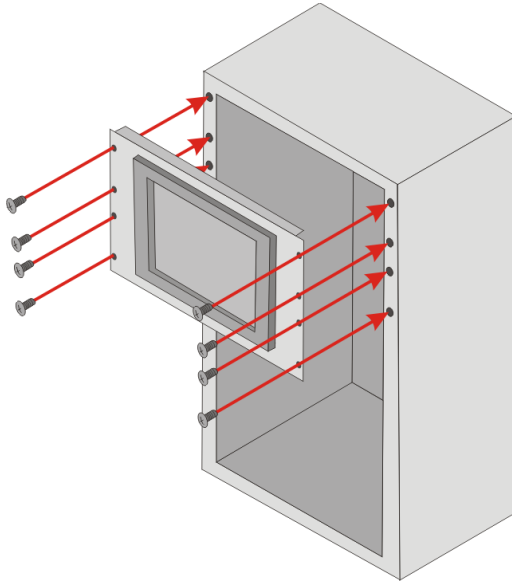

Figure 3-37: Install into a Rack/Cabinet
Step 5: Slide the PPC-FxxA-H81 with the attached rack/cabinet bracket into a rack or cabinet (Figure 3-37).
Step 6: Once the flat panel PC with the attached rack/cabinet bracket has been properly inserted into the rack or cabinet, secure the front of the rack/cabinet bracket to the front of the rack or cabinet (**Figure 3-37**).